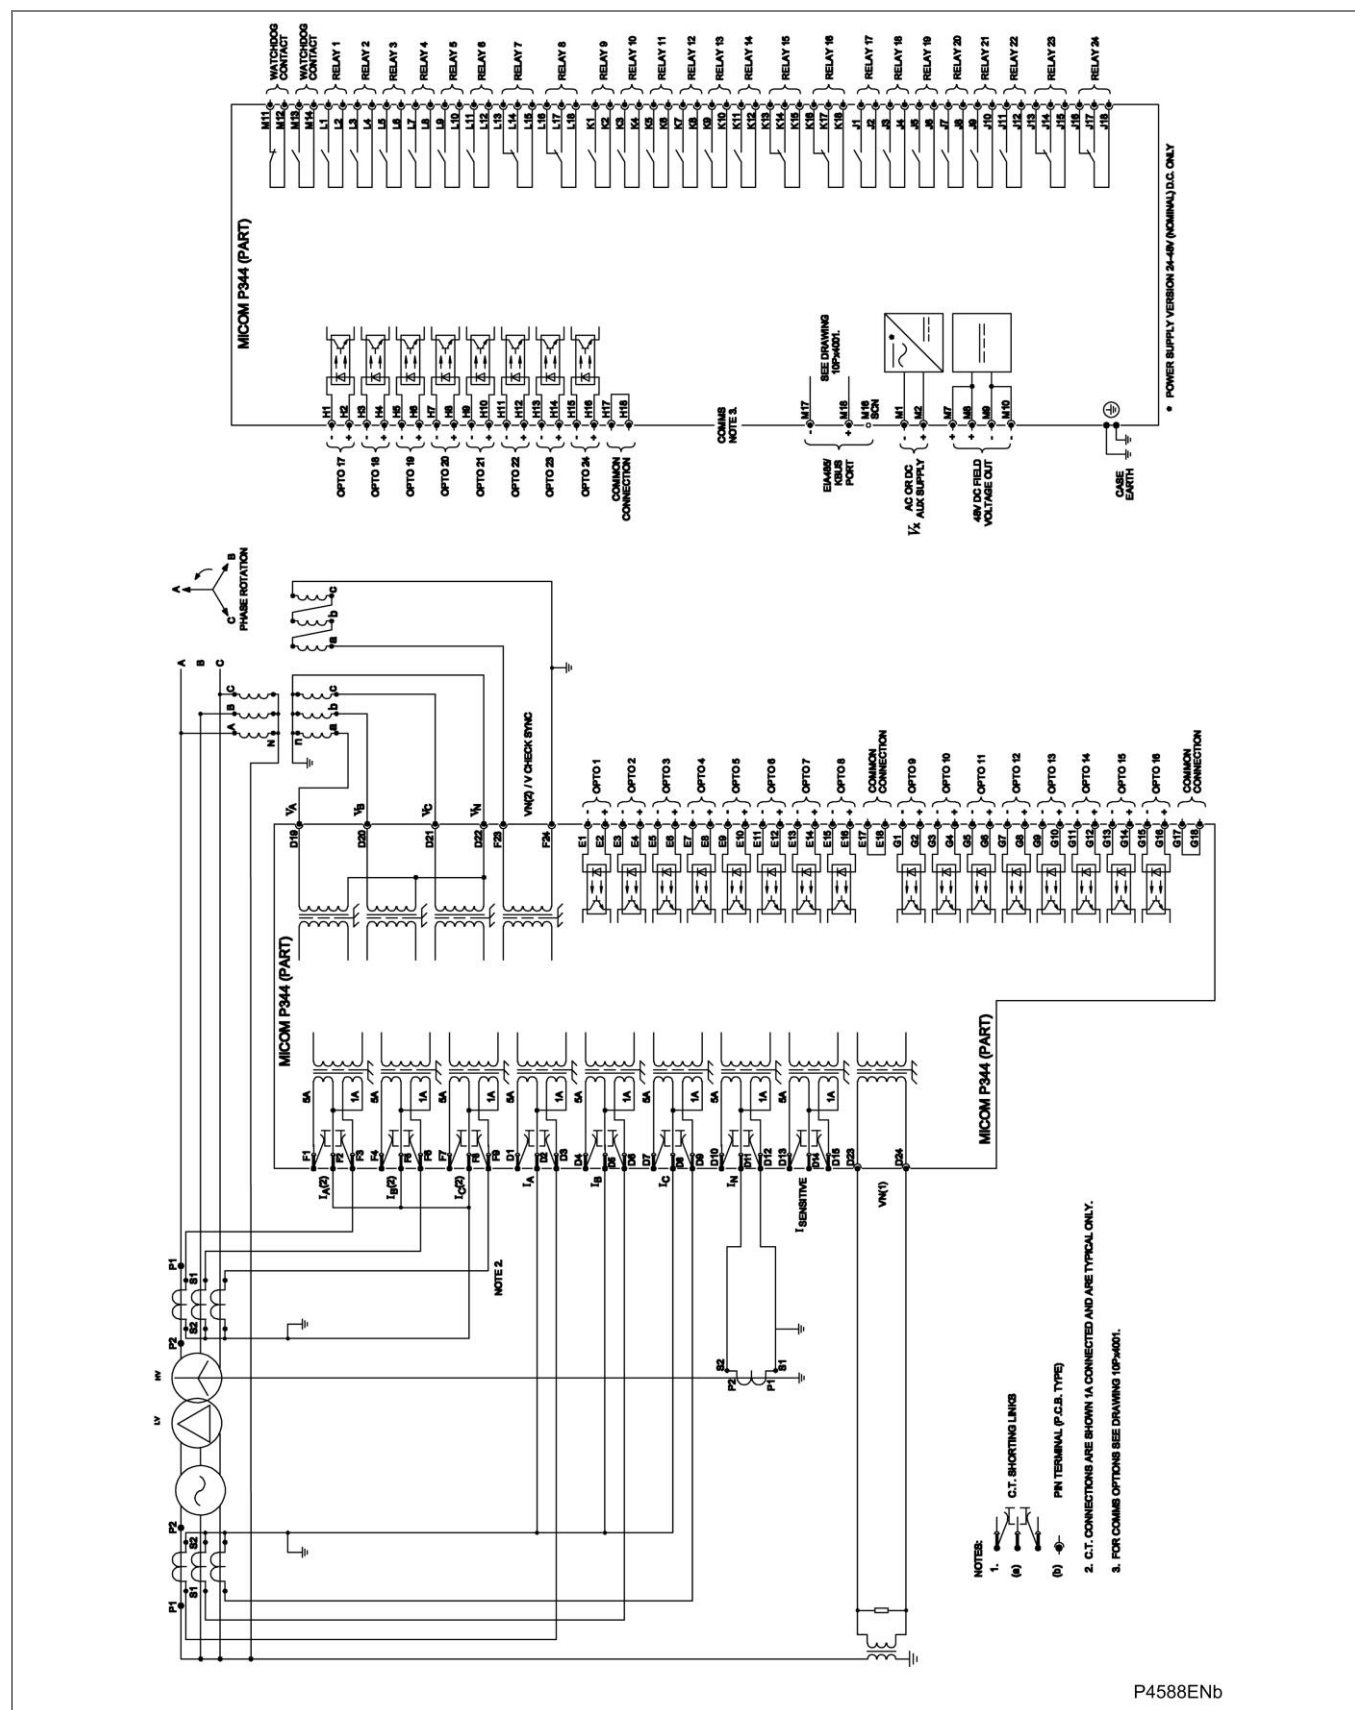

Figure 40 - P344 (60TE) for biased generator-transformer differential (24 I/P & 24 O/P)
- Figure 40 - P344 (60TE) for biased generator-transformer differential (24 I/P & 24 O/P)